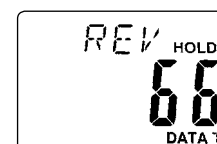

fig.4
4.5.2. The reading will be stored in one of ten data set locations. One data set consists of a MAX data figure, a MIN data figure, and an AVERAGE data figure. Only measurements that can vary (such as RPM) will record as a set. Non variable measurements such as REV will only record as a single figure. See fig.4.